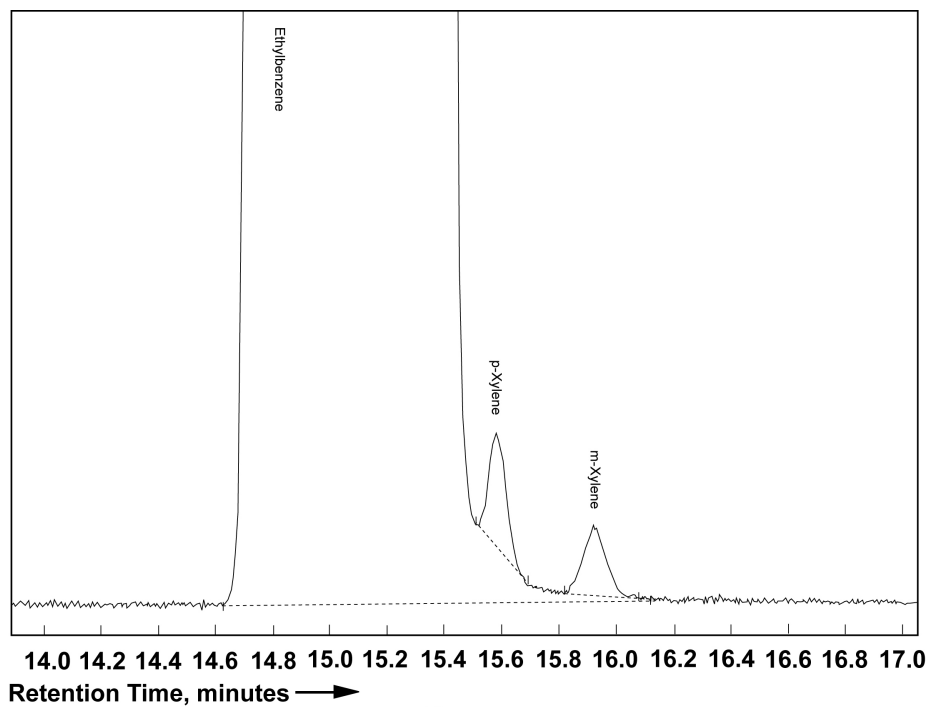

Figure 2
- The area of the p-xylene peak must be measured by performing a tangent skim on the tail of the ethyl benzene peak as shown in Figure 2.